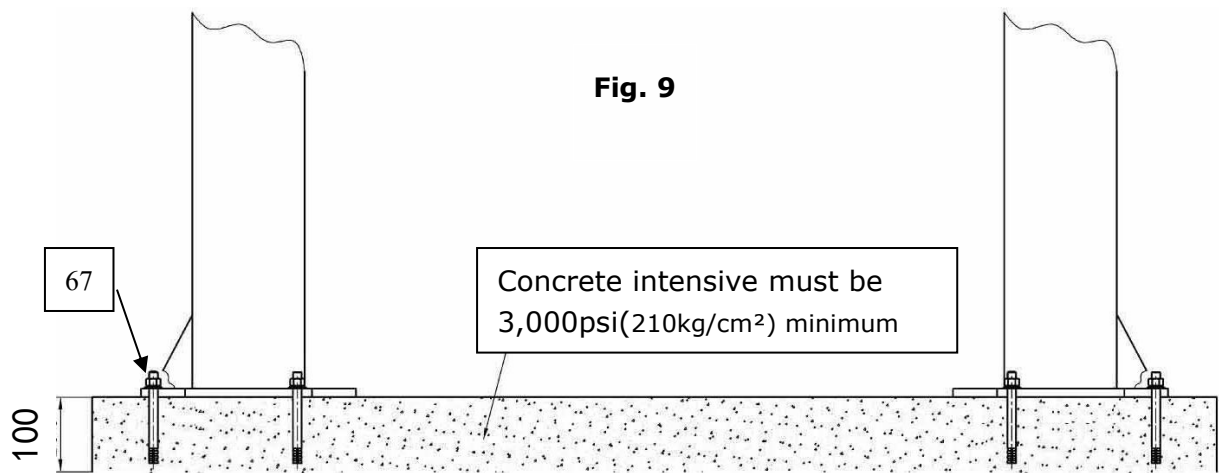

Fig. 9
D. SPECIFICATIONS OF CONCRETE (See Fig. 9)